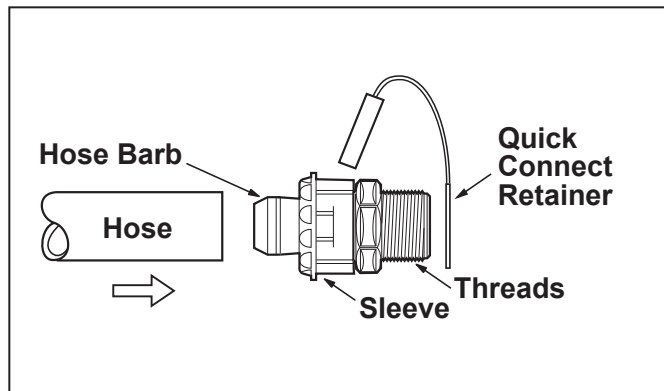

Figure 5. Install the Hose onto the Quick Disconnect
- Mount the pump using two (2) concrete expansion anchors to ensure stability.
- Push the hose onto the quick connect until it is flush against the hose barb base. See Figure 5.